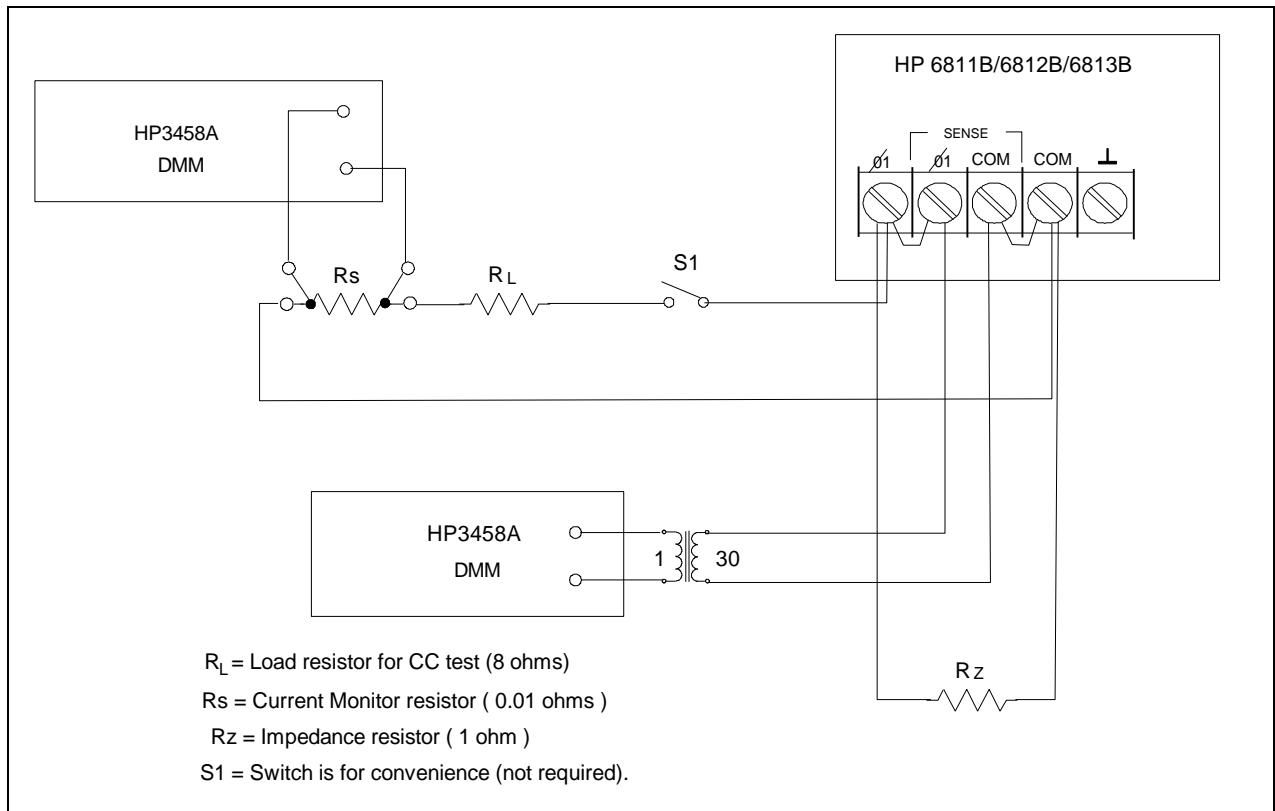

Figure B-1. Verification & Calibration Test Setup
Figure B-1 shows the setup for the tests. Be certain to use load leads of sufficient wire gauge to carry the full output current (see chapter 2).
1. Make sure the ac source is turned off. Connect the DVM and ratio transformer as shown in the test setup in Figure B-1.
1. Turn off the ac source and connect the DVM, the 20 ohm load resistor and current shunt as shown in Figure B-1 with S1 closed. Connect the DVM across the current shunt.
Table B-1 lists the equipment required for calibration. Figure B-1 shows the test setup.